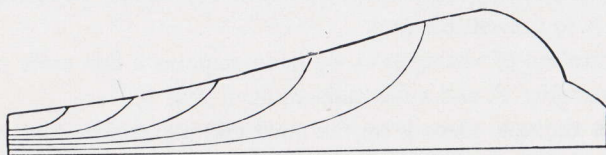

Fig. 6. Showing the method of taper grinding the blade by the manufacturer.
In a high class saw such as the PAX, very little set is necessary. The way in which the saw blade is ground (thinner towards the back and point) aids clearance. (Fig. 6.)
(2) *Avoid excessive setting.* For the reasons explained above (Fig. 6), taper grinding of a craftsman's saw eliminates the need for much set. Oversetting may damage the teeth and increases the energy required in sawing.